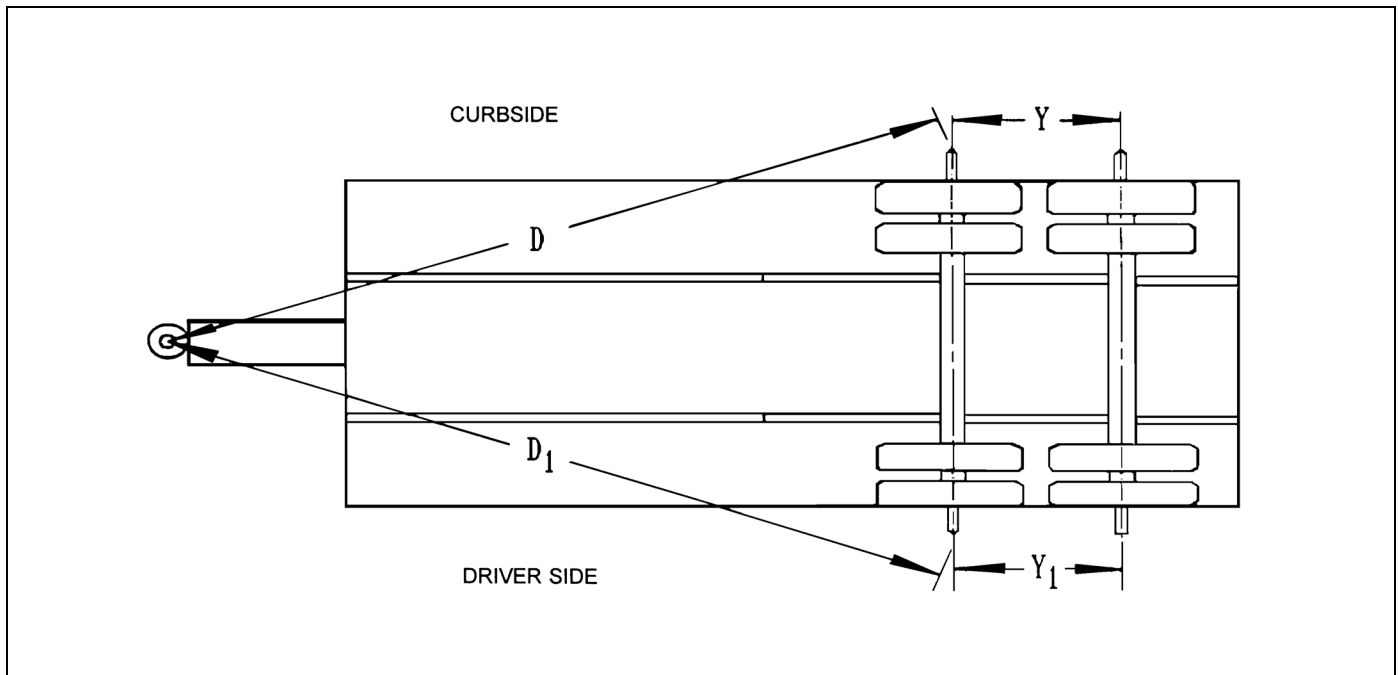

Figure 4-5: Checking Axle Alignment
4. Measure (D) from the plumb bob to the center point on one end of the axle. Record this measurement **(See Figure 4-5.)**
5. Measure (D1) to the other end of the axle in the same manner as in **step 4.** Record this measurement **(See Figure 4-5.)**